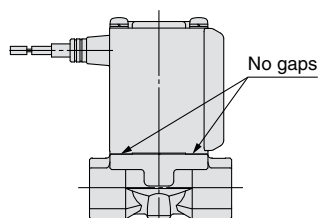

Fig.1
- Push the coil assembly against the body and tighten the screws two or more rounds diagonally (Fig. 2) in the status that there are no gaps between the coil assembly and body (Fig. 1).
- * After tightening the screws, make sure that there are no gaps between the coil and body (Fig. 1).